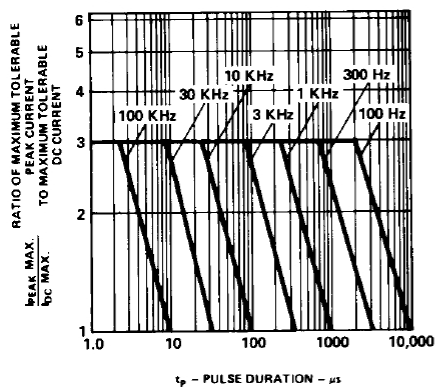

Figure 5. Maximum tolerable peak current vs. pulse duration (I_{DC} MAX as per MAX ratings).
1. See Figure 5 (Red), 10 (Yellow), or 15 (Green) to establish pulsed operating conditions.